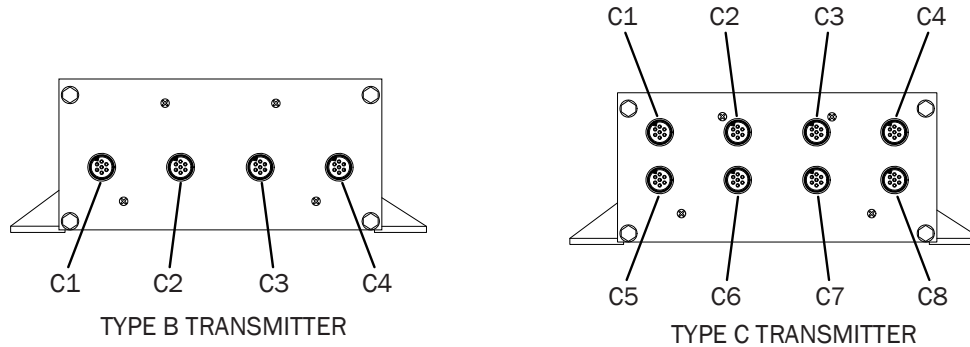

Figure 6. Sensor Addressing Detail
After installing the sensor probes and transmitter, connect each of the sensor probe cable plugs to the circular receptacles located at the bottom of the GTC108 transmitter enclosure. Probes are “Plug and Play” and do not have to be connected to a specific receptacle on the transmitter unless traverse data is desired (see note below). Transmitters accept only GF2 sensors. For fan array applications, sensors must be connected in the specific order shown in Figure 6 to ensure that proper parameters (area, number of sensors, etc.) are entered during set up.
- ⚠ When traverse data is desired (especially when using the EB-Link Reader), probes should be installed and connected to the transmitter using the mounting convention specified in Figure 6. Proper installation simplifies sensor location decoding during data analysis.
Sensors are automatically addressed after power is applied to the transmitter as shown in Figure 6 and detailed in the following paragraphs: